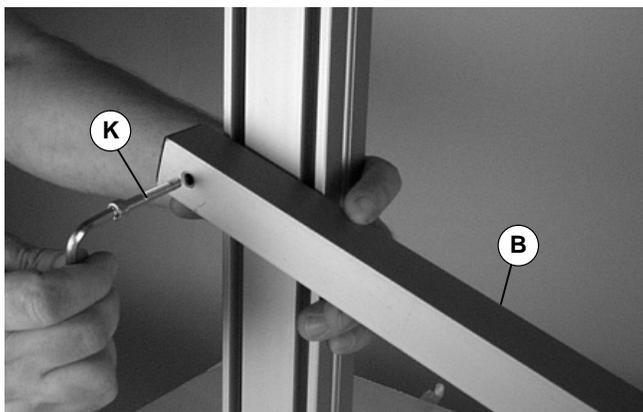

Figure 13
- Loosely attach adjustable bar (B of Figure 13 or 14) to 90° bracket or aluminum stand T-slot as required.
- Attach outer tube end with screw (K of Figure 13)